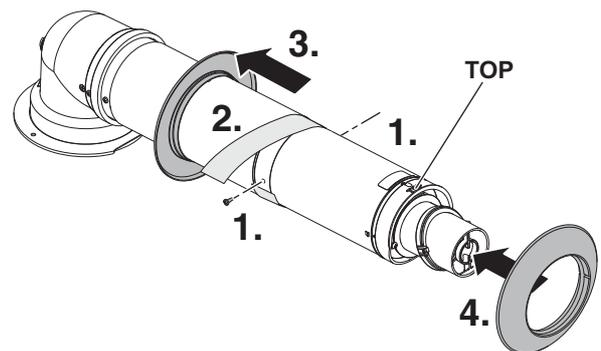

Fig. 39 Telescopic flue
1. Refer to figure 39 and set the flue length to the distance required, secure with screws provided.